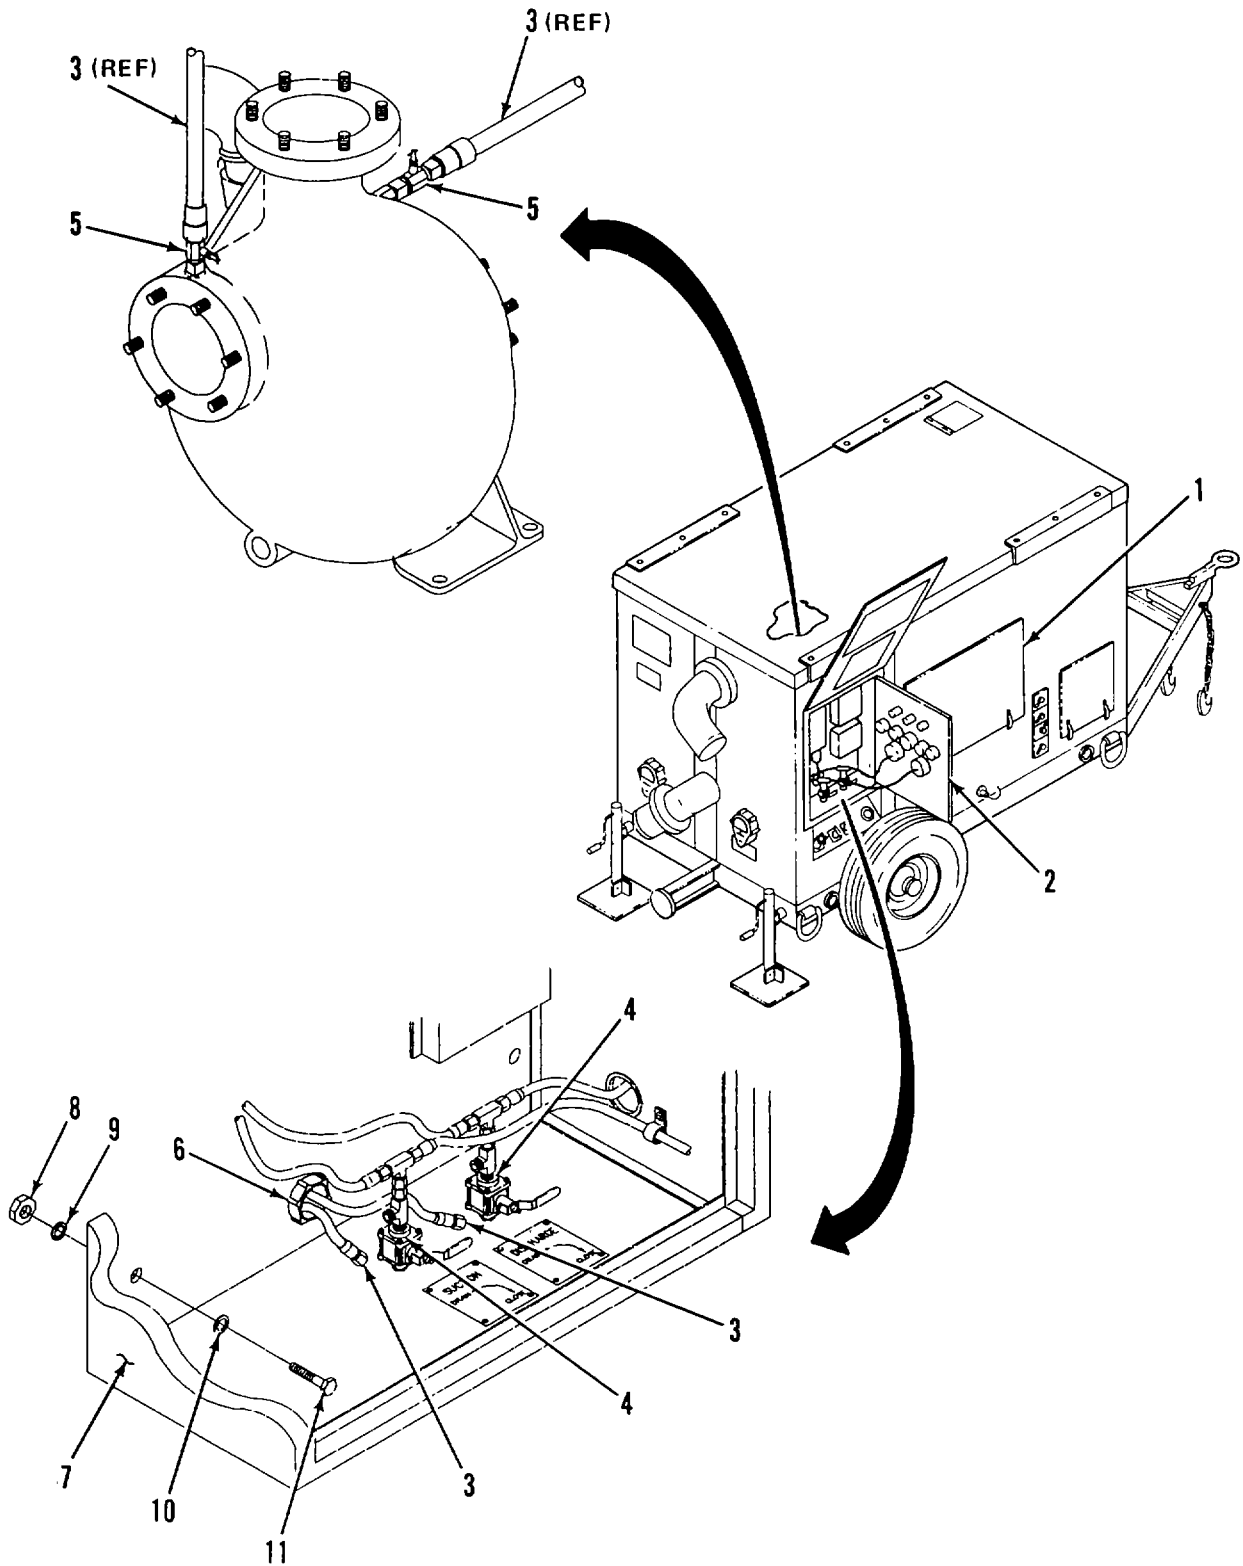

Figure 2-4. Control Panel Assembly
a. **REMOVE.** (Figure 2-4)
- (1) Open engine access door (1).
- (2) Disconnect electrical connectors P1 and P9 from J1 and J9 on mounting bracket behind control panel.
- (3) Open control panel door (2). Tag and disconnect flexible tube assemblies (3) at drain valves (4) and at pump gage valves (5). Pull tube assemblies (3) through grommet (6) from rear of control panel (7).
- (4) Remove nuts (8), lockwashers (9), flat washers (10), and bolts (11) holding control panel (7).
- (5) Remove control panel (7).